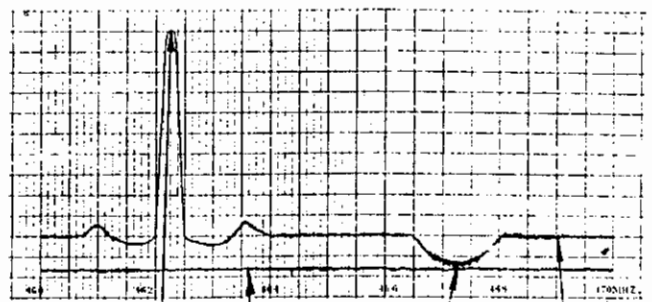

Fig. 6-9
- Key the transmitter and observe the analyzer. Figure 6-9 is a sketch of the desired waveform. It should be noted, a well tuned duplexer will show a dip in the noise level at the transmitter frequency.